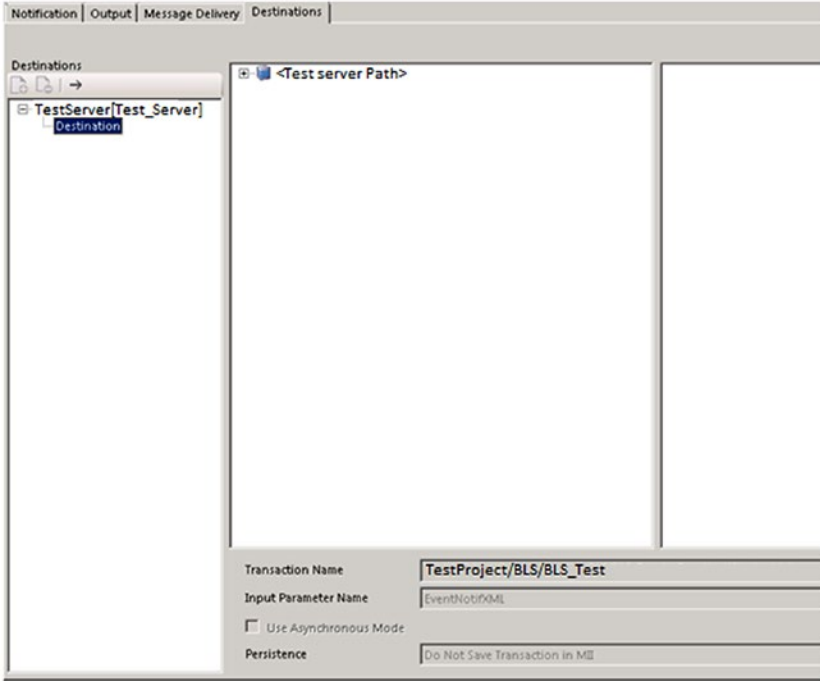

Figure 7-148. Configuring a destination for PCo notification
9. Specify the destination system in the Destination tab. The BLS to be executed for PCo notification processing is mentioned here, as shown in Figure 7-148.